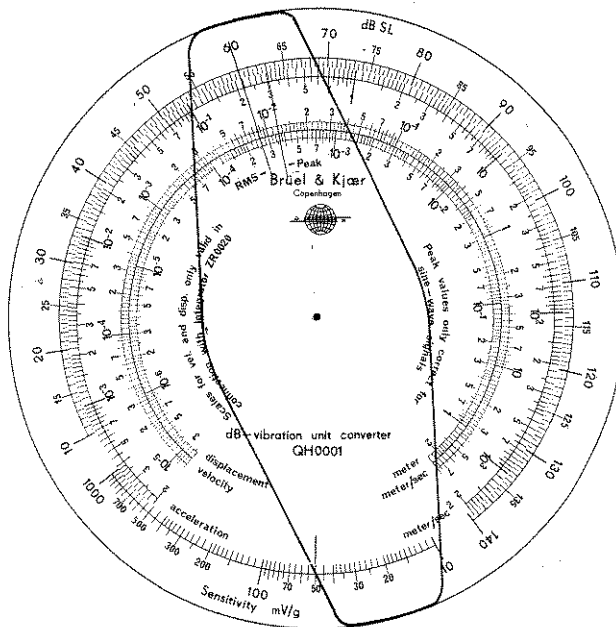

Fig.3.5. Slide Rule QH 0001 set for an accelerometer sensitivity of  $50 \text{ mV/g}$  and an SPL of  $60 \text{ dB}$
The vibration amplitude may only be calculated in the same parameter as that set on the Integrator, and the Slide Rule must not be used to convert from one parameter to another. To determine another parameter, the Integrator must be set and the 2209 calibrated for that parameter and new measurements made. The circular Slide Rule QH 0001 (shown in Fig.3.5) provided with the Integrator should be used to make the calculations as follows:
1. Set the isolated red line on the sliding scale adjacent to the accelerometer sensitivity in mV/g on the outer scale of the Slide Rule. (It is shown adjacent to 50 mV/g in Fig.3.5.)
2. Turn the cursor so that its RMS line lies over the value of the 2209 meter reading (M) in dB on the outer dB SL scale of the Slide Rule.